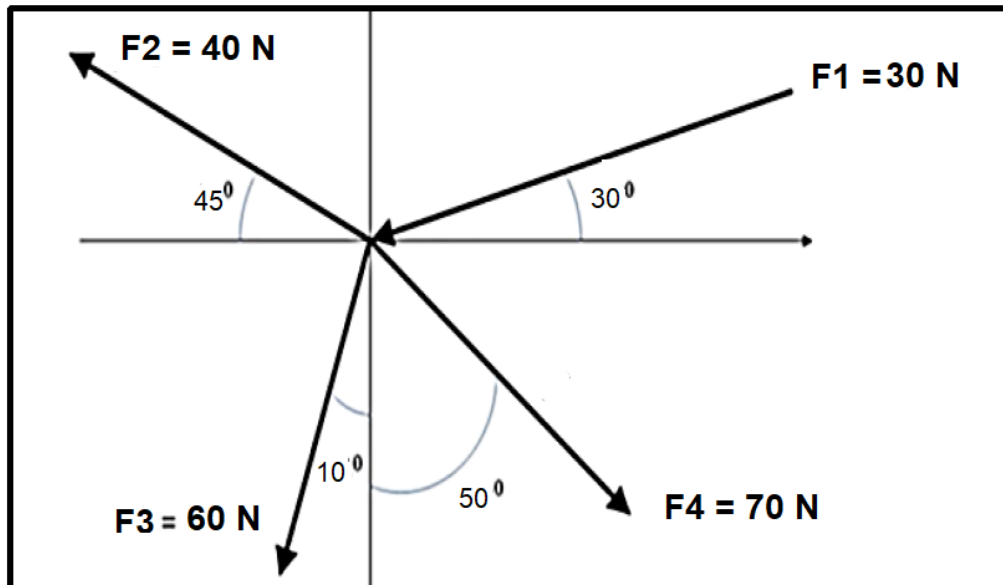

FIGURE 8.1
8.1 FIGURE 8.1 shows a system of four forces acting on the same point. Answer the questions that follow.